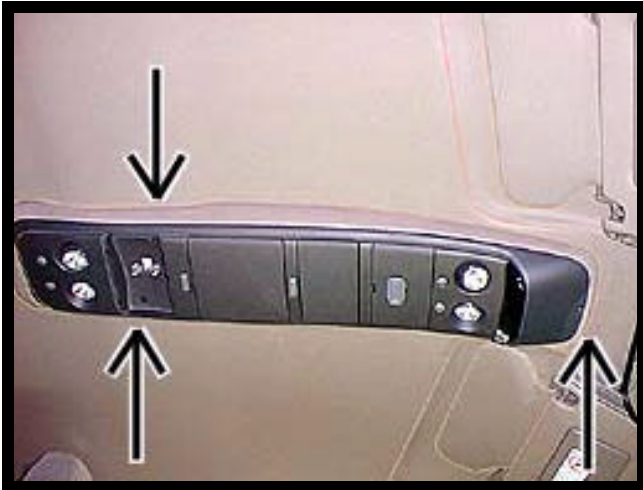

FIGURE 1
1. Remove the O.E.M. console mounted to inner roof of vehicle. Remove and discard dome light cover to gain access to (2) two #8 x 3/4" screws. Retain screws. Remove and retain (1) one #8 x 1 1/2" screw located in front of console near rear view mirror. See Figure 1.